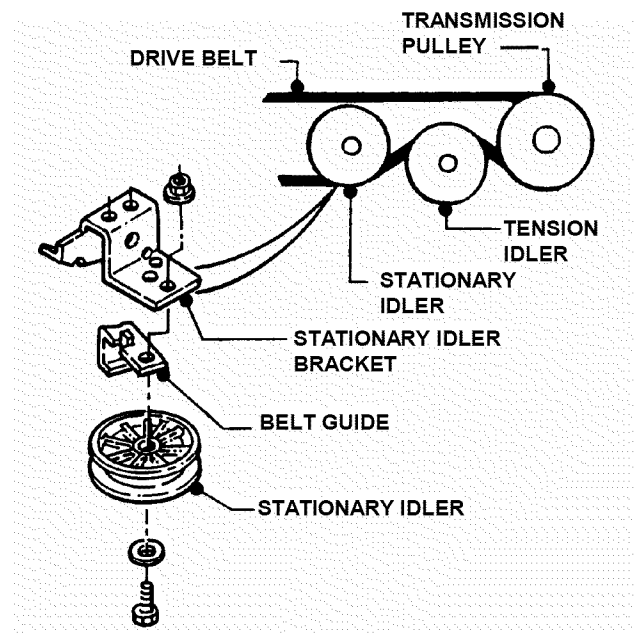

FIGURE 4.25
3. Route belt through stationary and tension idlers. See Figure 4.25.